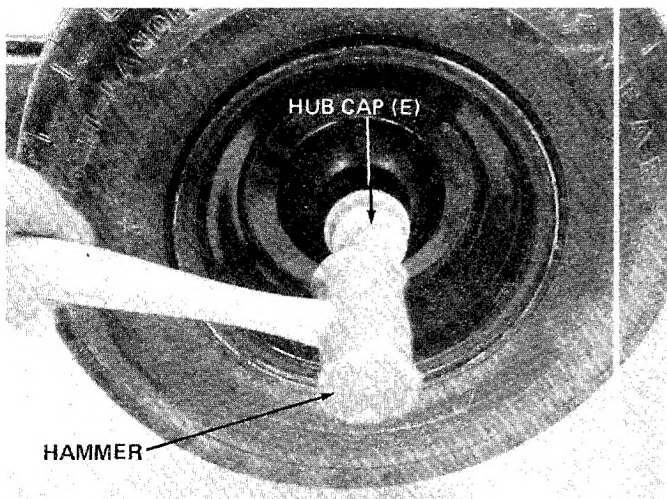

FIGURE 5.
4. Place hub cap (E) in position on wheel and tap on with a plastic hammer. See figure 5.